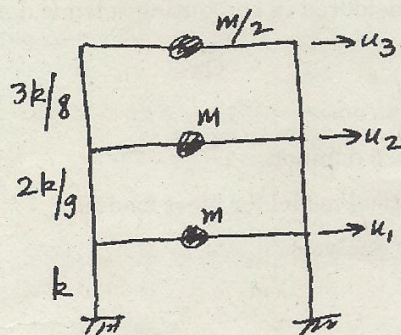

Fig. 5
13. (a) The floor masses and storey stiffness of the three storey frame, idealised as a shear frame, are shown in Fig. 5. Where  $M = 100 \text{ Kg-m/sec}^2$  and  $K = 150 \text{ N/mm}$ . Determine the fundamental frequency and mode shape by inverse-vector iteration.